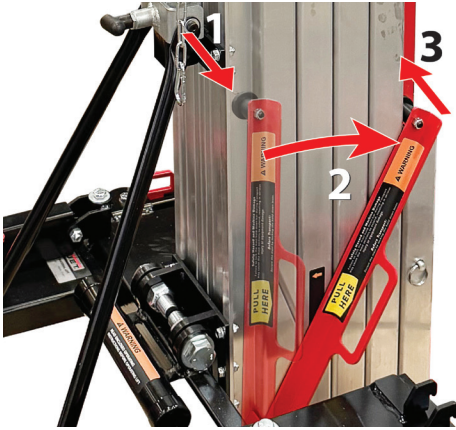

Figure 4-7: Engaging Mast Locking Arm
3. Engage the mast locking arm. To do so, pull arm outward from its position at the rear of the mast. Rotate the arm forward and release when the rubber wheel is over the fork carriage. See Figures 4-7.